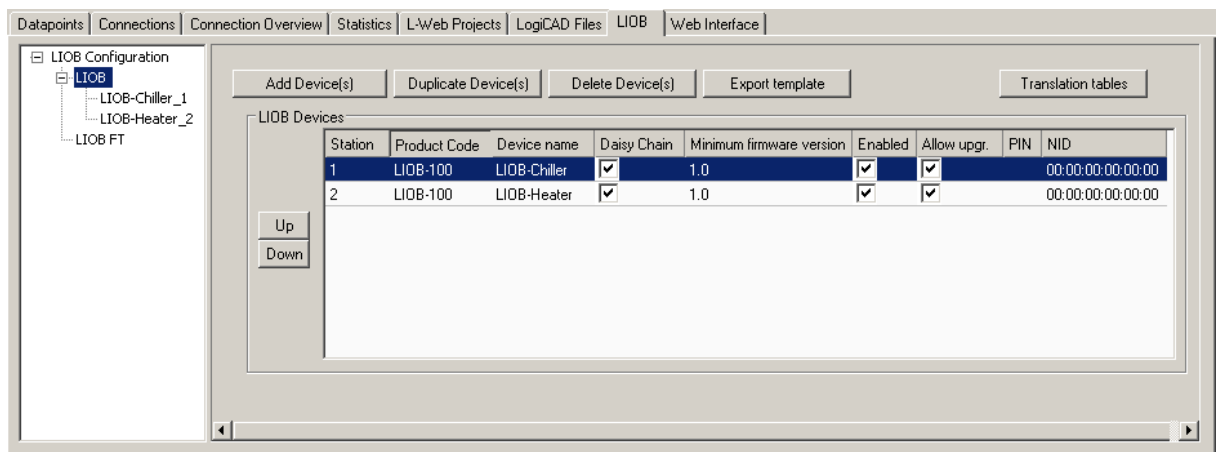

Figure 16: Add L-IOB devices to the LIOB Connect bus.
- Add L-IOB devices on the **LIOB** tab from the supplied L-IOB templates using the **Add Device(s)** button as shown in Figure 16.